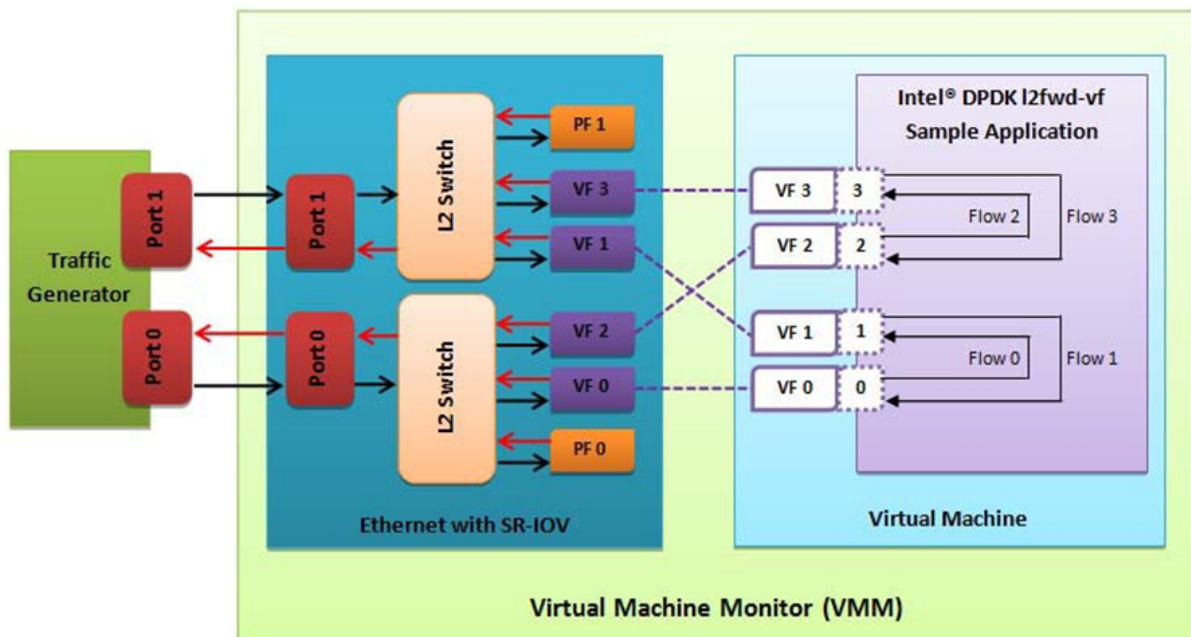

Fig. 29.2: Performance Benchmark Setup
- The Virtual Machine Monitor (see Fig. 29.2) is equivalent to a Host OS with KVM installed as described in the instructions.